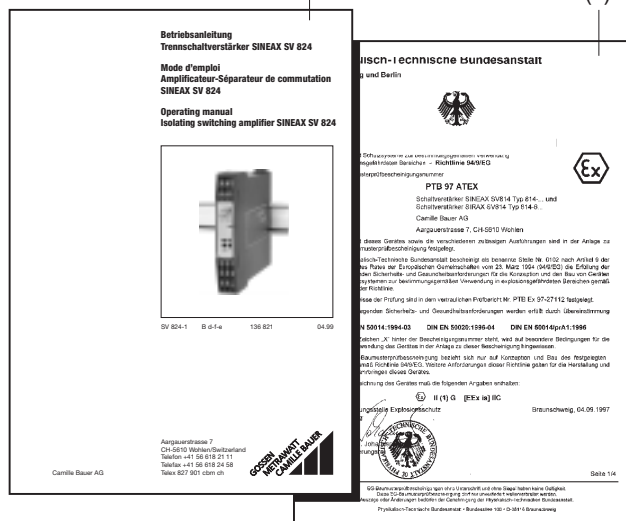

Fig. 1
- 2 **withdrawing handle (2)** (for withdrawing the device from its housing)
- 2 **frontplates (3)** (for notes)
- 1 **Ex approval (4)**
- 1 **Operating Instructions (5)** in three languages: German, French, English
2. Scope of supply (Fig. 1)